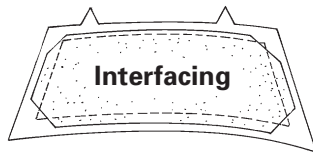

Fig. 8-1
1. Pin the interfacing to the wrong side of the undercollar. Machine-baste the interfacing to the undercollar $\frac{1}{2}$ inch (1.3 cm) from the outer edge. If the collar is pointed, trim the corners off the interfacing before attaching it to the undercollar. (Fig. 8-1) If you are using fusible interfacing, trim off the interfacing $\frac{1}{2}$ inch (1.3 cm) on all edges. (Fig. 8-2) Follow the manufacturer's directions for fusing.